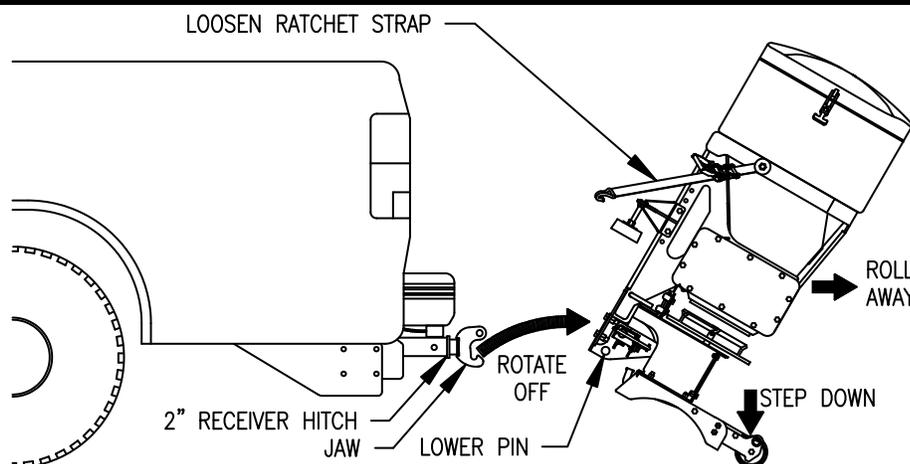

Figure 13. RT3 Attachment Removal Procedure
9. Grip spreader firmly, step on Leg Assembly and rotate spreader off Lower Pin, refer to Figure 13.